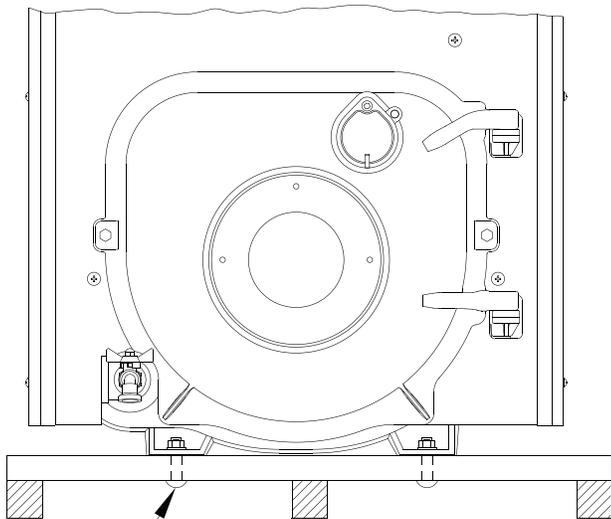

Figure 3-1 : Packaged Boiler Removal from Skid
1. Boiler is secured to base with 4 bolts, 2 in front and 2 in rear of shipping skid, see Figure 3-1. Remove all bolts.